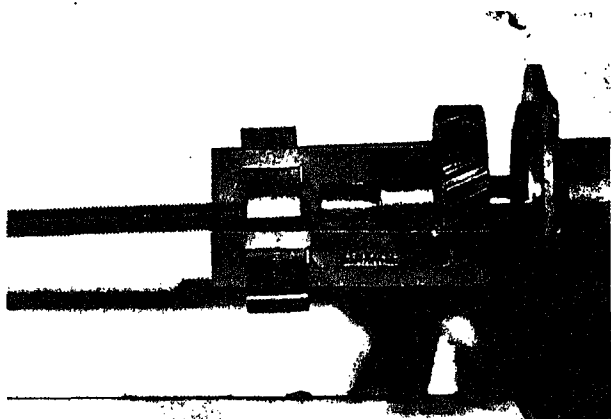

Fig. 12-2-9. Remove drive gear and roller bearing
3. Install puller and remove drive gear and roller bearing (if used) from compressor crankshaft. Fig. 12-2-9.